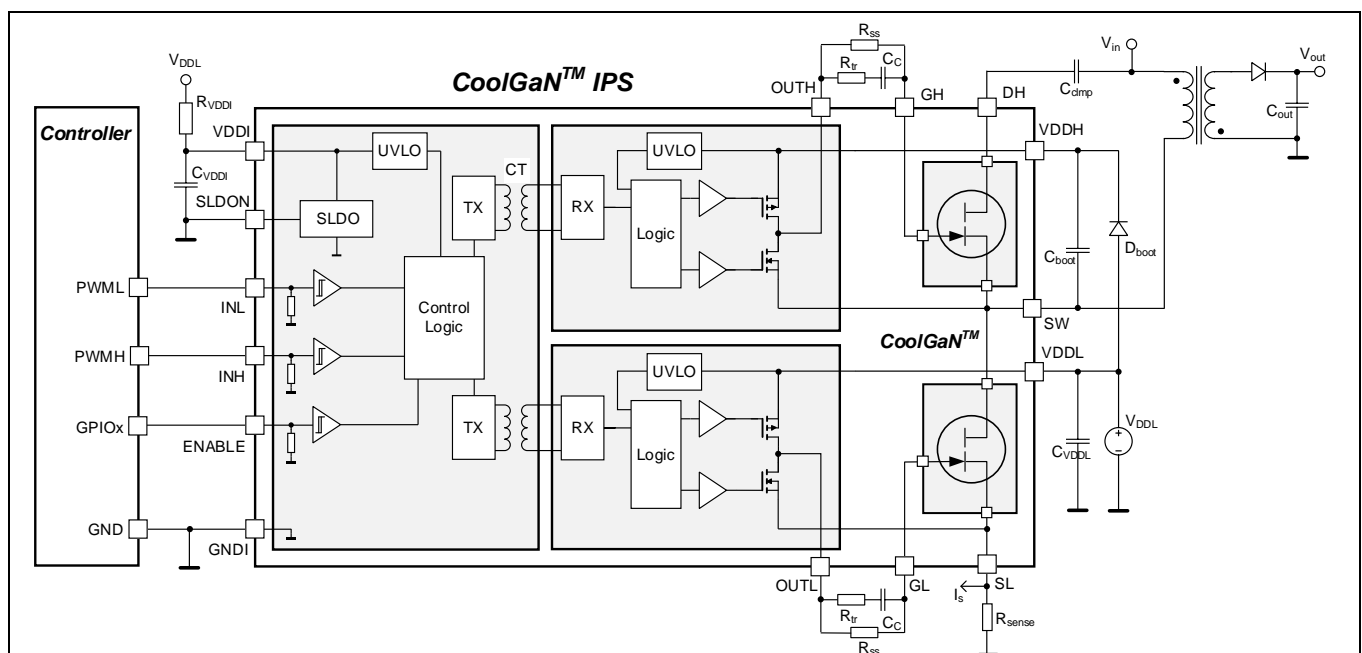
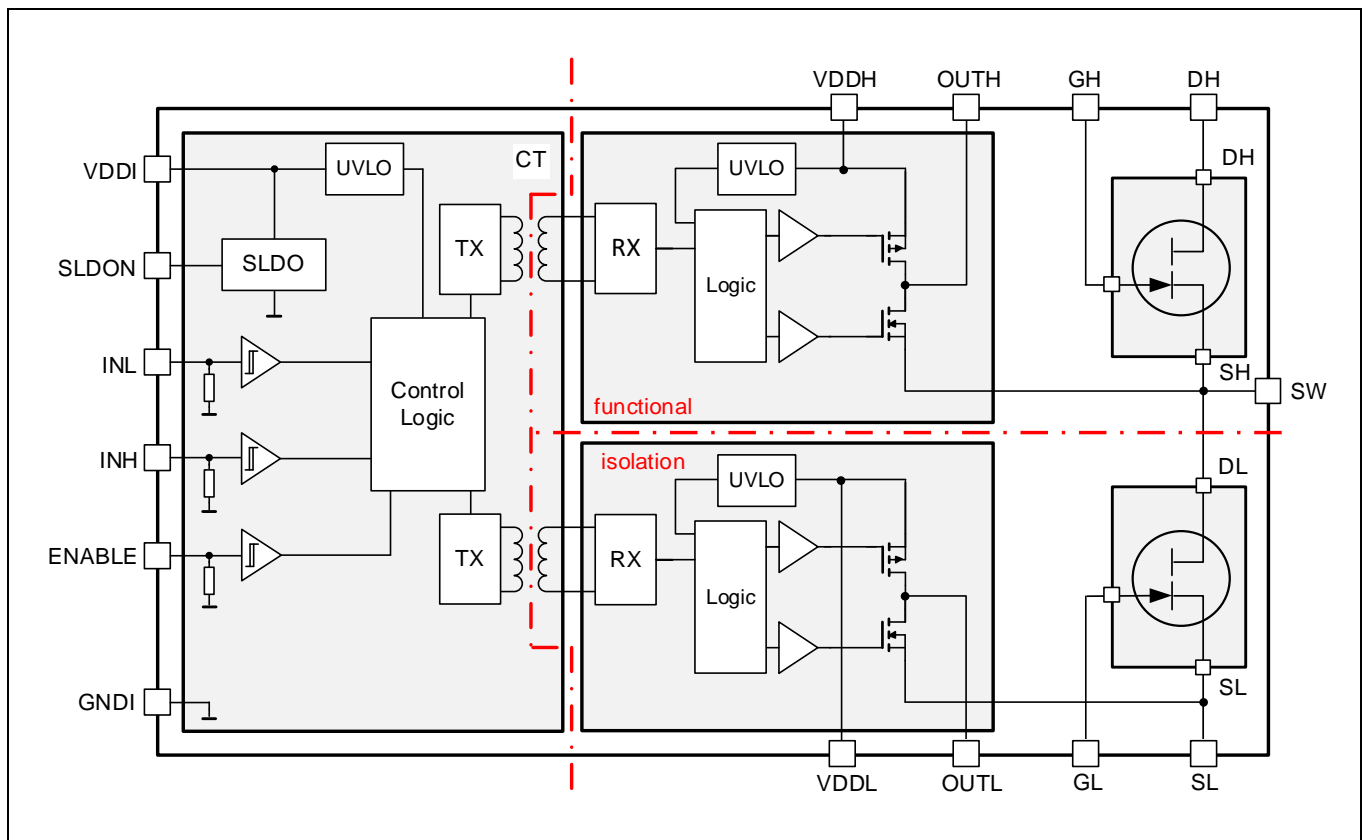

Figure 1 Typical application circuit (active clamp flyback converter)
Figure 3 Block Diagram IGI60F5050A1L
IGI60F5050A1L combines a half-bridge power stage consisting of two 500 mΩ (typ. R_{dson}) / 600 V enhancement-mode CoolGaN™ HEMTs with dedicated gate drivers in a small 8 x 8 mm QFN-28 package. In the low-to-medium power area (example application in Figure 1) it is thus ideally suited to support the design of high-density AC/DC chargers and adapters utilizing the superior switching behavior of CoolGaN™ HEMTs.
A simplified functional block diagram of the CoolGaN™ Power Stage is given in **Figure 3**. For the level-shifting function of the input signal to the high-side switch an on-chip coreless transformer (CT) is utilized. For symmetry reasons a CT is also included in the low-side path, resulting in both a galvanic input-to-output and high-to-low-side isolation. In addition, this CT separates the low-side gate driver reference (SL) from GNDI allowing to use a shunt resistor for current sensing as shown in **Figure 1**.
If no separate 3.3 V supply is available, the input side can also be operated with V_{DDL} (typically 8 V). Then the shunt LDO voltage regulator (SLDO) has to be enabled by connecting pin SLDON (pin#23) to GNDI. The SLDO regulates the current through an external resistor R_{VDDI} connected between V_{DDL} and pin VDDI as depicted in Figure 1 to generate the required voltage drop. For proper operation it has to be ensured that the current through R_{VDDI} always exceeds the maximum supply current I_{VDDI} of the input chip. R_{VDDI} thus has to fulfil:
Both output dice have to be supplied by a voltage of typically 8 V related to the source of the respective GaN switch. In many applications the floating high-side supply V_{DDH} can be generated from the ground-related V_{DDL} by means of bootstrapping (components D_{boot} , C_{boot} and R_{boot} in Figure 1). A ceramic bypass capacitance C_{VDDL} of typically 100 nF has to be placed close to pin V_{DDL} .